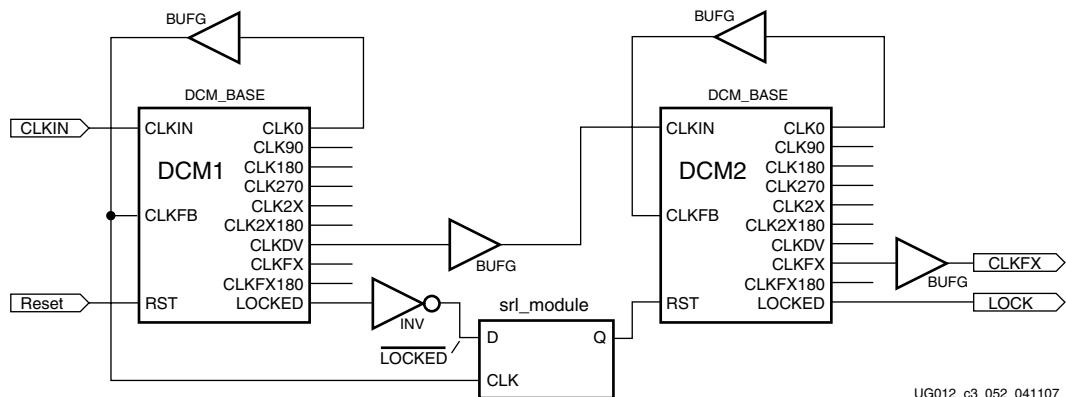

Figure 2-5: Cascading DCMs
- Use the LOCKED output from DCM1 to create a Reset for DCM2. The recommended length of a Reset pulse is three CLKIN cycles. The LOCKED signal from DCM1 could be inverted to LOCKED and used as the input to an SRL16, with the output of the SRL16 providing the Reset input to DCM2. Connect the output of DCM1 to CLKIN of DCM2 through a BUFG. Figure 2-5 illustrates this approach.